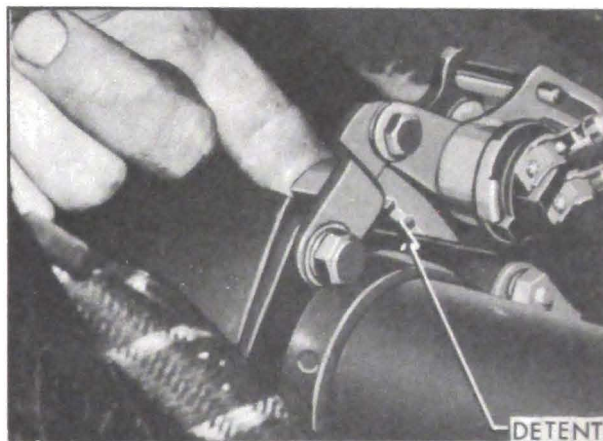

Figure 1-9—Dynaflow Transmission Control Detent
15. *Control Detent—Dynaflow Drive.* Apply a small amount of Lubriplate or chassis lubricant to notches of control detent at base of steering column. See figure 1-9.